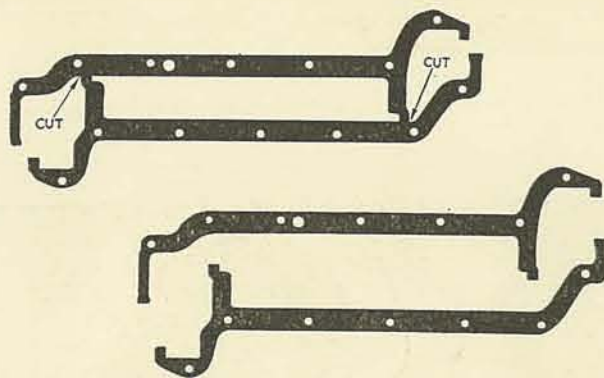

FIG. 4.
**Note.**—If it is necessary to fit a new sump gasket refer to Fig. 4 as to the method of cutting a replacement gasket. Take care that the portion is left on, which goes between the rear main bearing cap cork seal and crankcase.